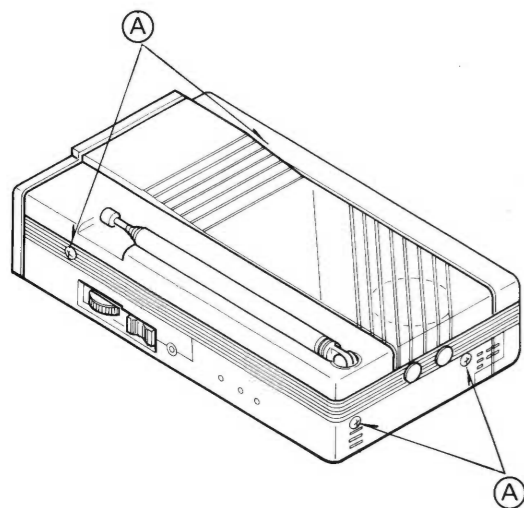

Fig. 1
1. Remove 4 screws (A) as shown in Fig. 1.